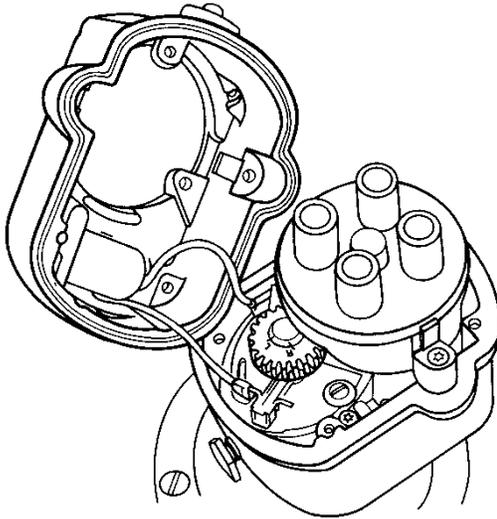

Figure 7.18
- A. Connect the retard terminal wire to the retard contact points. (See Figure 7.18.)